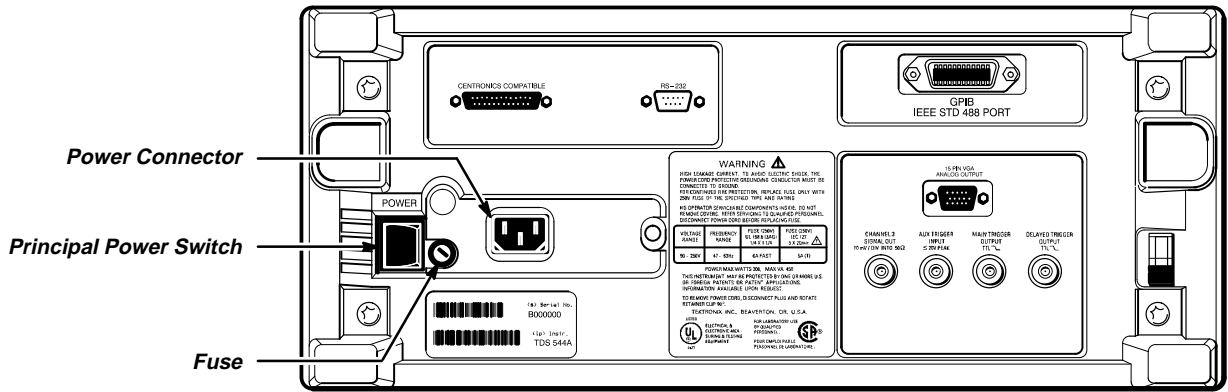

Figure 1-1: Rear Panel Controls Used in Start Up
3. Check the fuse to be sure it is the proper type and rating (see Figure 1-1). You can use either of two fuses. Each fuse requires its own cap (see Table 1-1). The digitizing oscilloscope is shipped with the UL approved fuse installed.
5. Connect the proper power cord from the rear-panel power connector (see Figure 1-1) to the power system.
1. Check that the rear-panel principal power switch is on (see Figure 1-1). The principal power switch controls all AC power to the instrument.